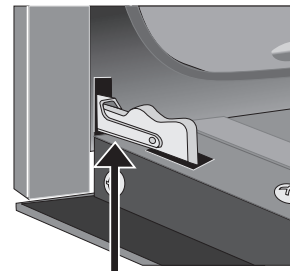
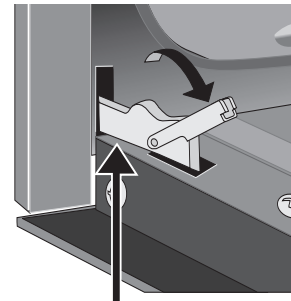

Figure 34: Door hinge locks
Figure 35: Unlocking door hinge
2. Pull up the lock located on each hinge support toward front of the oven until the lock stops. You may have to apply a little upward pressure on the lock to pull it up (Figure 34 and Figure 35).